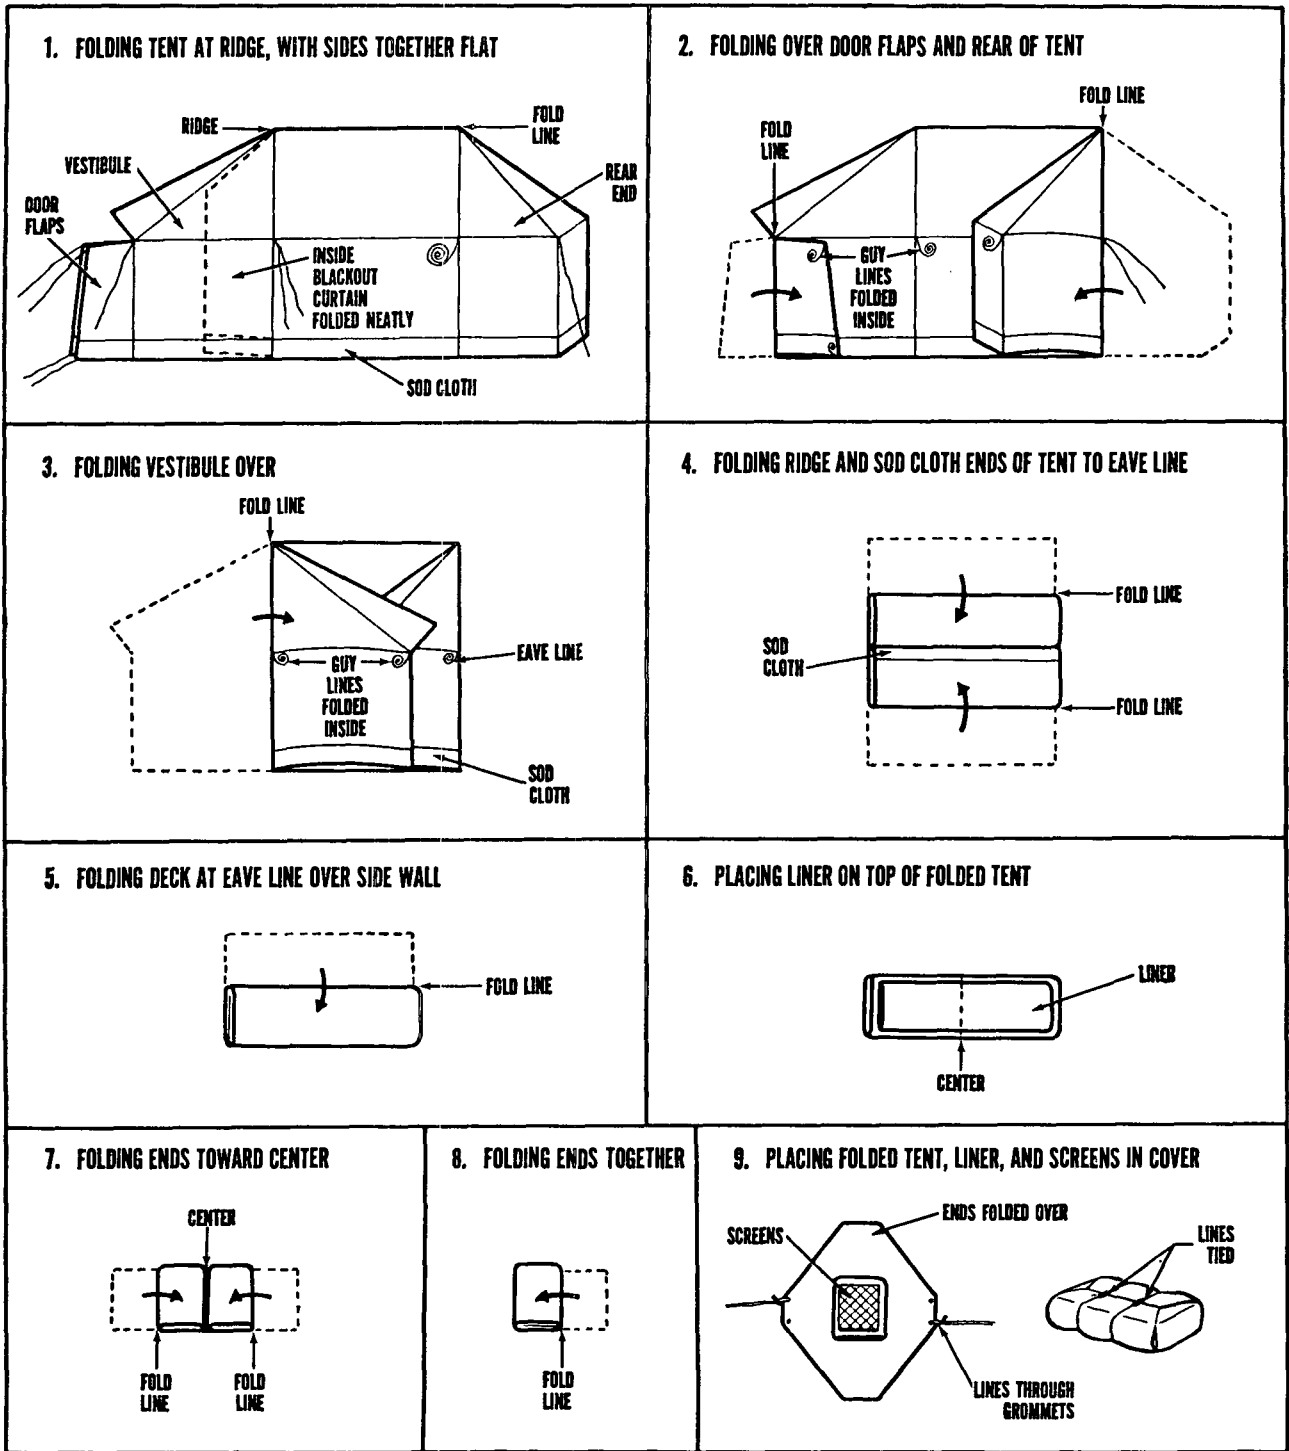

Figure 18. Steps in folding tent, command post, M-1945.
- (1) Remove screens, and lower sidewalls of tent.
- (2) Loosen liner hoisting lines, and untie tapes fastening liner to tent.
- (3) Remove liner.
- (4) Remove all footstops from 16-inch pins.
- (5) Loosen all guy lines and remove center poles.
- (6) Remove all 5-foot 8-inch eave poles.
- (7) Remove all guy lines from 24-inch pins.
- (8) Remove all pins.
f. Folding (fig. 18).
- (1) Fold tent at ridge, with tent laid out flat one side on top of the other, sod cloth and vestibule door flaps extended, and blackout curtain folded neatly one half on top of the other half (1).
- (2) Fold door flaps over on top of vestibule, then fold rear of tent over body